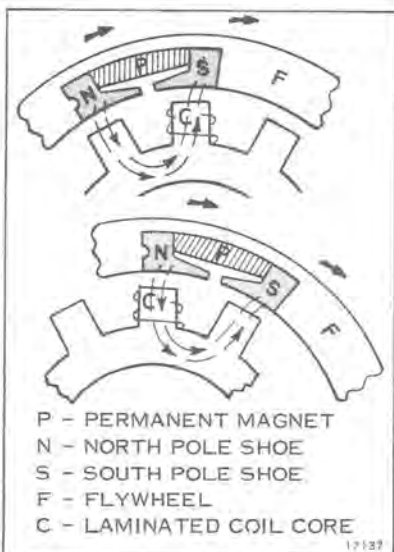

Figure 3-7
The flywheel rotates around the stator and charge coil assembly. (See Figure 3-7.) The magnets in the flywheel and the (2) charge coils generate a voltage. This voltage (AC) flows into the Power Pack I. Here it is changed to DC and stored in a capacitor. At the same time the sensor rotor rotates by the sensor coils and a smaller AC voltage is generated. This smaller voltage flows into the Power Pack I and causes an electronic switch in the Power Pack I to turn on allowing the voltage stored in the capacitor to discharge into the primary of the ignition coils.